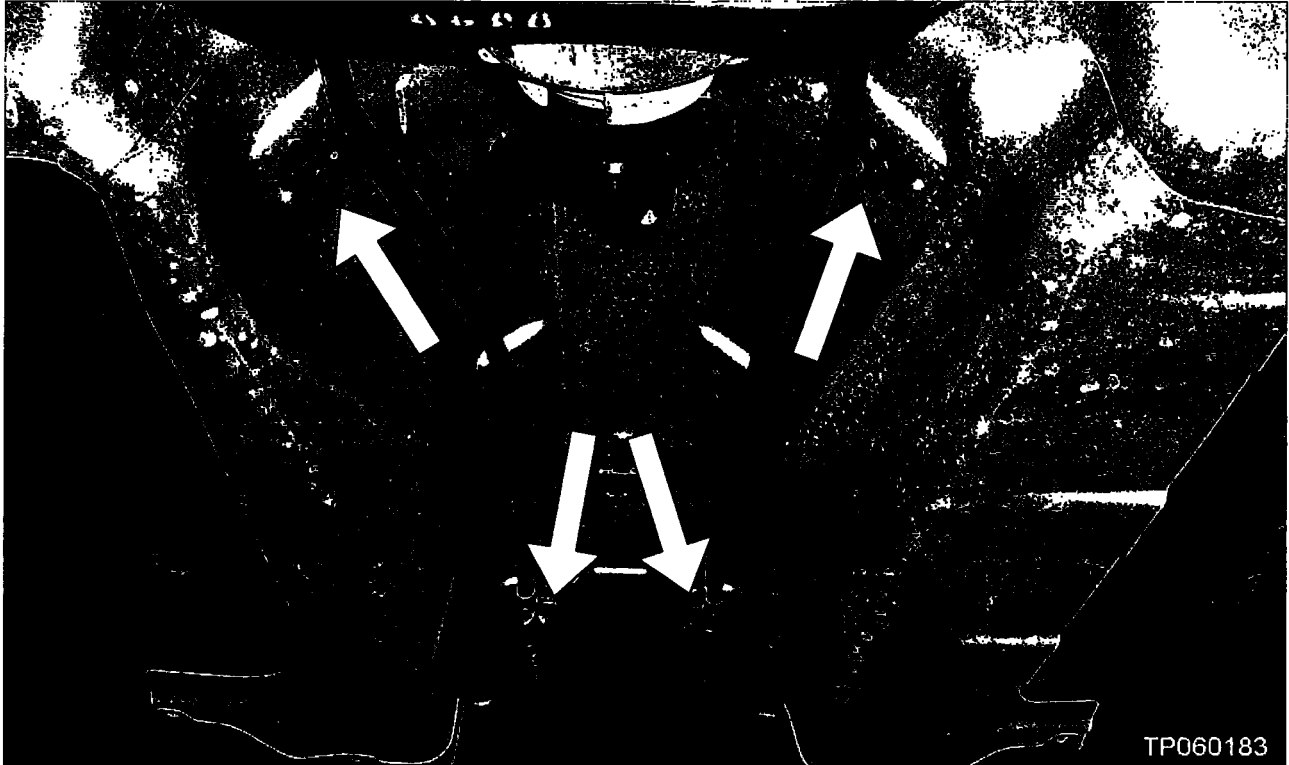

Figure 19
10. Remove the parking brake cable nuts shown in Figure 19.